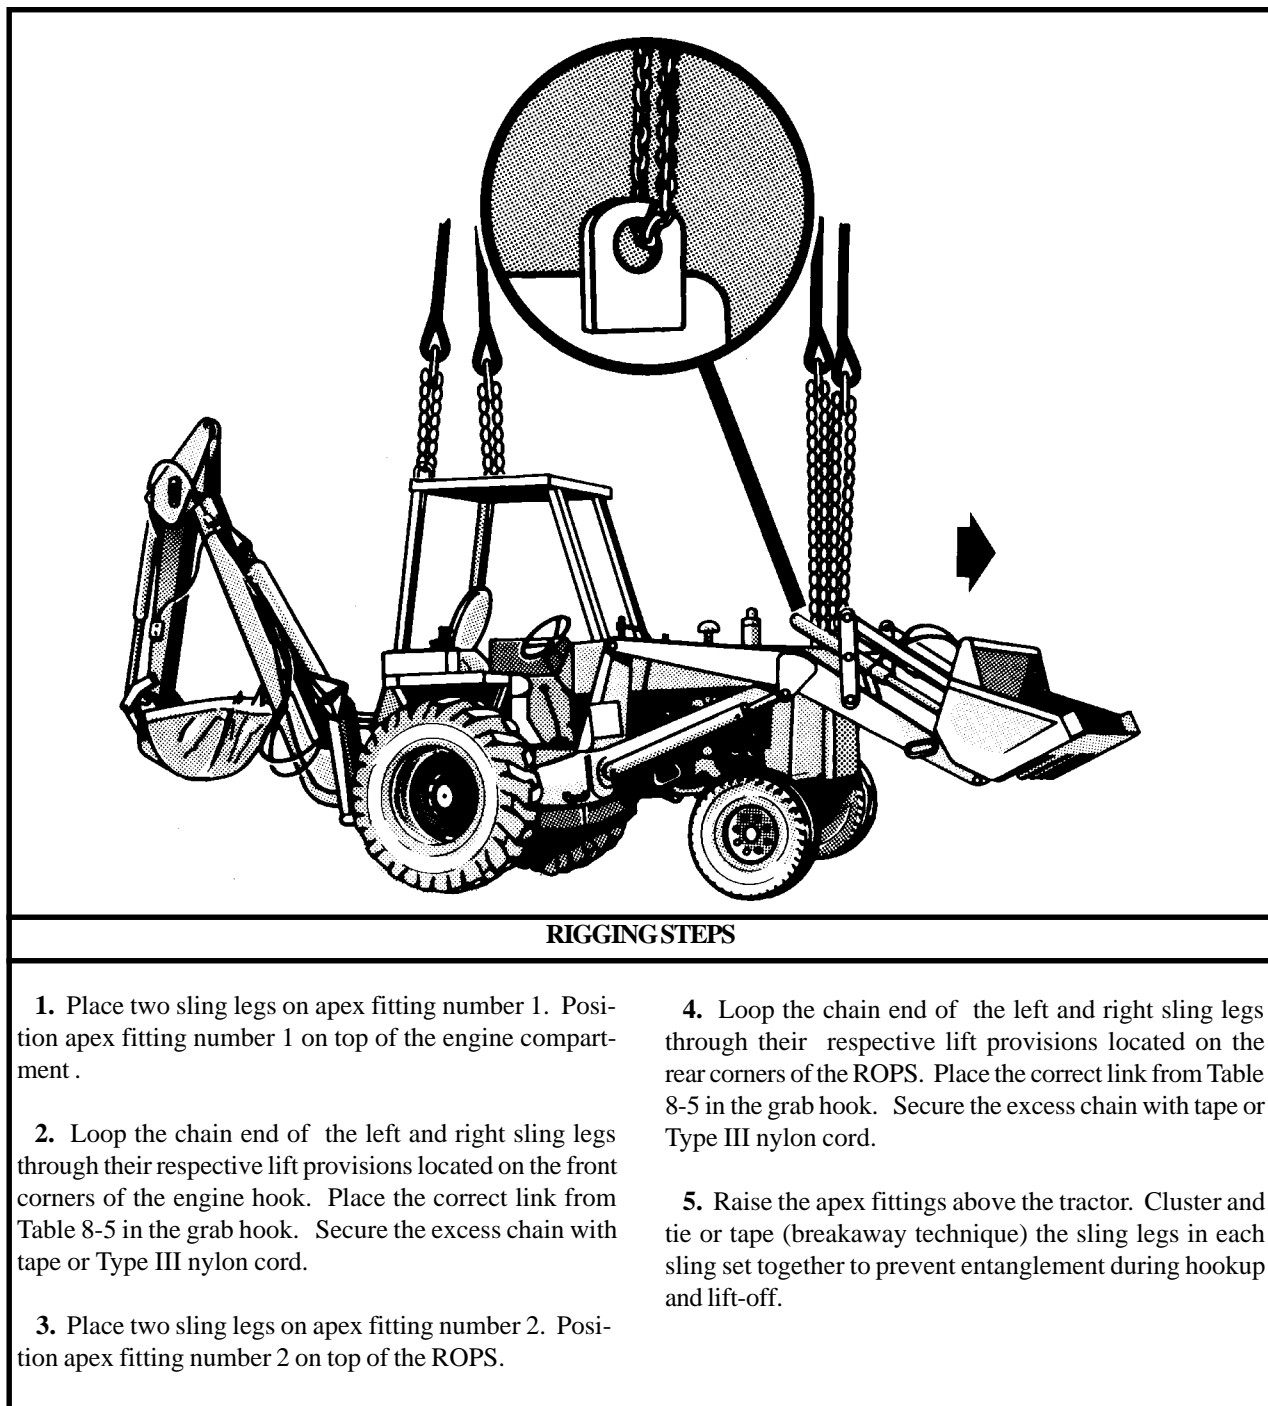

Figure 8-5. Tractor (Dozer), Full-Tracked, Type III, JD450G
(2) **Rigging.** Rig the load according to the steps in Figure 8-5.
(4) **Derigging.** Derigging is the reverse of the preparation and rigging procedures in steps d (1) and d (2).